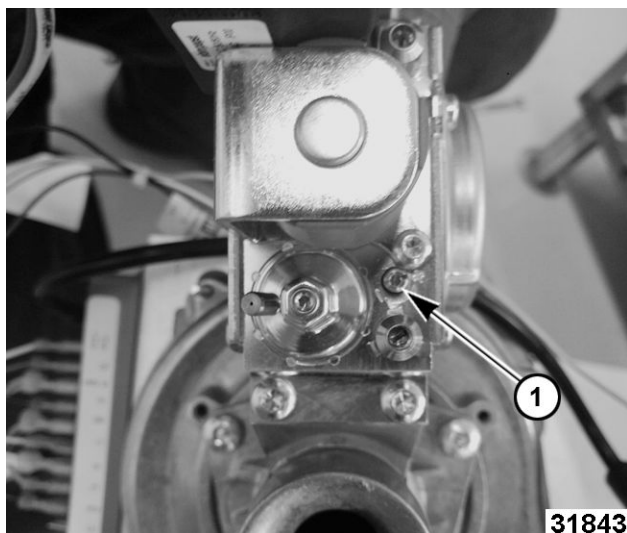

Fig. 47
- D. Turn adjustment screw (1, Fig. 47) all the way in until it bottoms out.